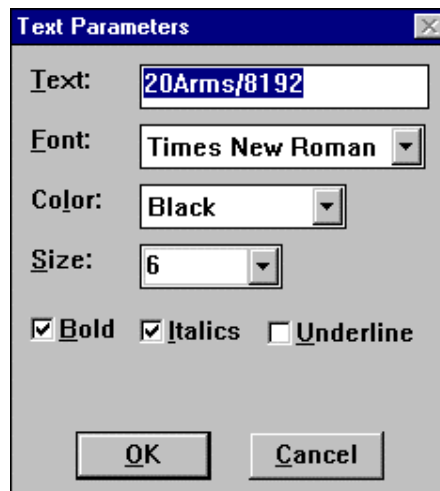

FIGURE 4.18 Text Parameters Dialog Box
- Text Parameters:** To edit graph labels double click on the chosen label. A *Text Parameters* dialog box is displayed allowing the user to change: text, font and font color. (FIGURE 4.18)